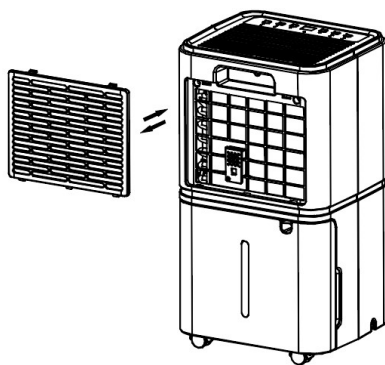

Fig.1
1. Remove the filter by releasing it from its seat, following the direction of the arrow (Fig.1).